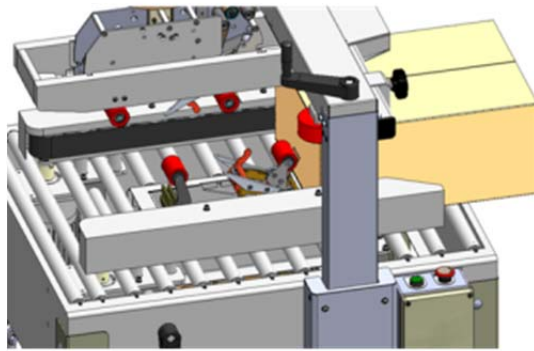

Figure-31
- a. Insert The Case To Just Before Front Roller Of Lower Tape Head As Shown In **Figure-31**